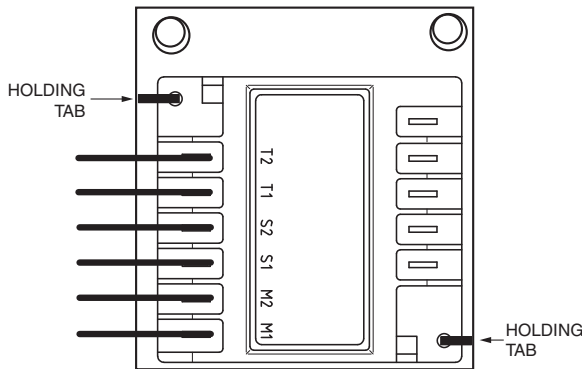

Fig. 36 — Kriwan Motor Protection Module Removal
4. Gently bend the holding tabs holding the Kriwan module in the terminal box and remove the Kriwan module from the terminal box. See Fig. 36.